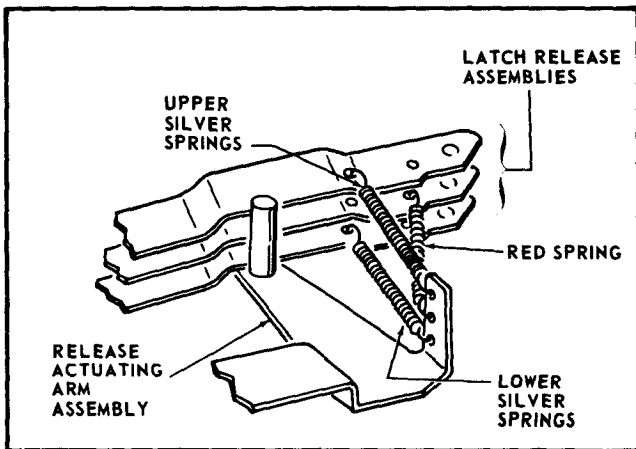

FIGURE 6
11. Remove from the 3 Latch Release Assemblies the 3 springs which are attached to the Latch Release Assemblies and the Release Actuating Arm Assembly. See Figure 6.